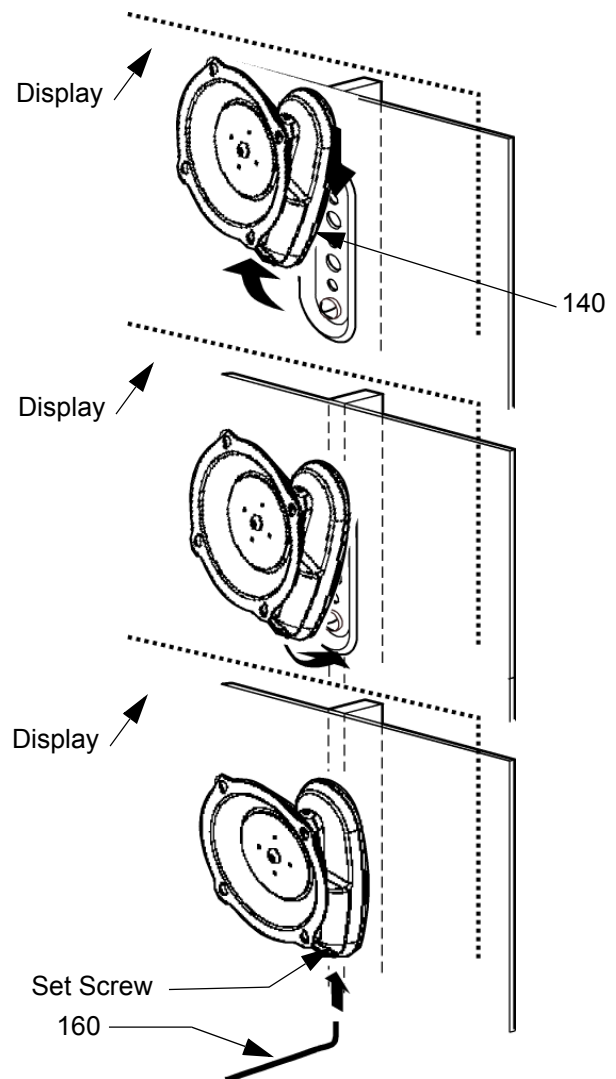

Figure 5: Attach Mount to Wall Bracket
1. Attach the mount on the wall bracket by aligning the top of the mount (10) with the top of the wall bracket (140). Push the bottom of the mount against the bottom of the wall bracket until the mount fits snugly in place. (see figure 5)
2. Using the 5/32" hex wrench (160), secure the mount to the wall bracket by tightening the set screw (see figure 5). Ensure set screw engages *back* side of bracket to properly secure mount.